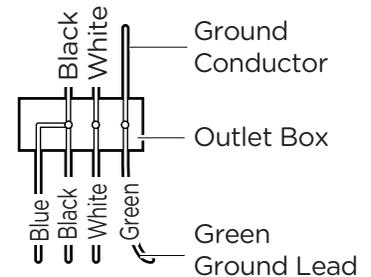

Figure 8
- Slide the ball up until the pin fits firmly into the ball. Insert the ball screw into the ball and tighten properly (fig. 8).
- Connect the fan supply (black) wire and light supply (blue) wire to the black household wire as shown in Figure 8. Do not connect the blue wire if the light kit is not used.
- After connecting the wires, secure the wire connectors (BB) with black electrical tape and spread them apart so that the green and white wires are on one side of the outlet box and the black and blue wires are on the other side. (i.e., grounded conductor on one side and hot wires on the other side.)
- Turn the wire connectors (BB) upward and push the wiring into the outlet box.